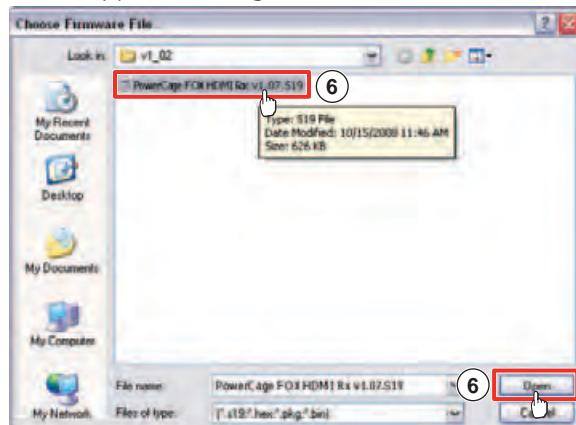

Figure 23. Choose Firmware File Window
5. Select the PowerCage FOX unit and click **File > Open**. The Choose Firmware File screen appears (see figure 23).